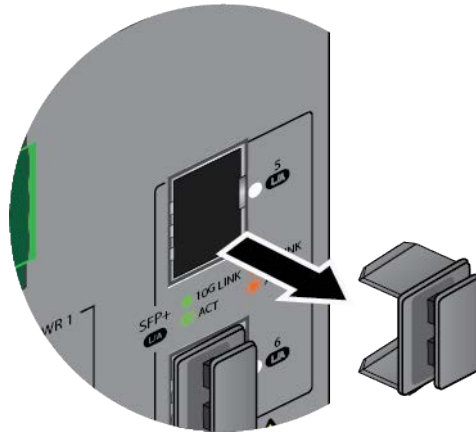

Figure 25. Removing the Dust Plug from an SFP+ Port
1. Remove the dust plug from an SFP+ port. Figure 25 on page 83.